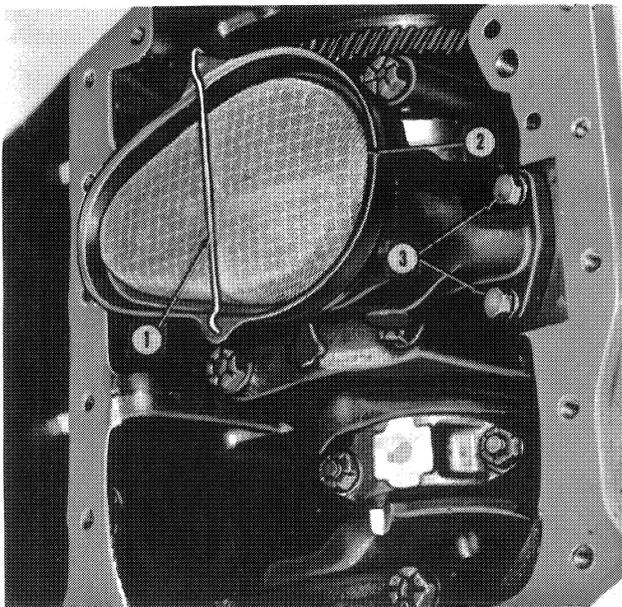

Figure 29
2. Remove the oil pump retaining bolts, Figure 29, and remove the oil pump and gasket. When the oil pump is removed, the intermediate shaft is loose and should be removed.
1. Remove the oil pump screen spring and pump screen, Figure 29.
2. Place the intermediate shaft on the rotor shaft and, using a new gasket, install the oil pump assembly on the cylinder block, Figure 29. Install the two mounting bolts and lock washers and tighten to the specified torque, page 80.